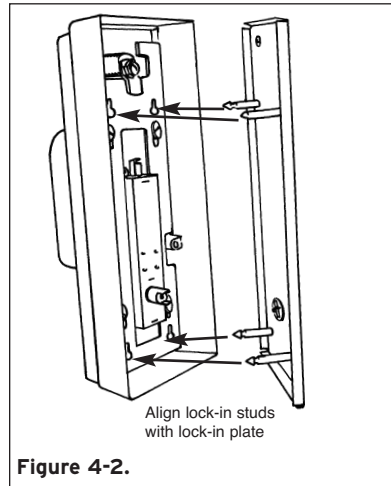

Figure 4-2.
- 4) The control key must be turned to the right (clockwise). Align the lock-in studs of the mounting bracket with the lock-in plate of the front lock assembly (see Figure 4-2).